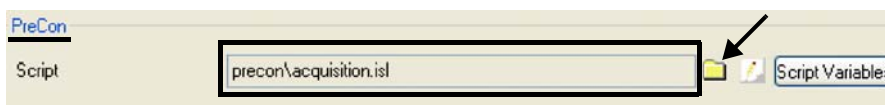

Figure 6-25. Selecting PreCon script for PreCon method
2. Depending on your hardware setup, in the Instrument tab select an appropriate PreCon script from the folder C:\Thermo\Isodat NT\Global\ISL\PreCon. See Figure 6-25.